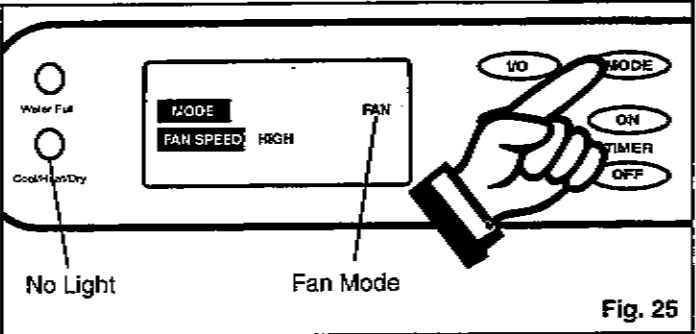

Fig. 25
- 2) Press the **MODE** key until the word **FAN** is displayed in the **LCD** window. *Fig. 25*. Each depression of the **MODE** key will advance to a different mode setting (**Cool-Heat** (DPAC7599)-**Dry-Fan**). No indicator mode light is visible during operation of the **FAN** mode (this is normal).